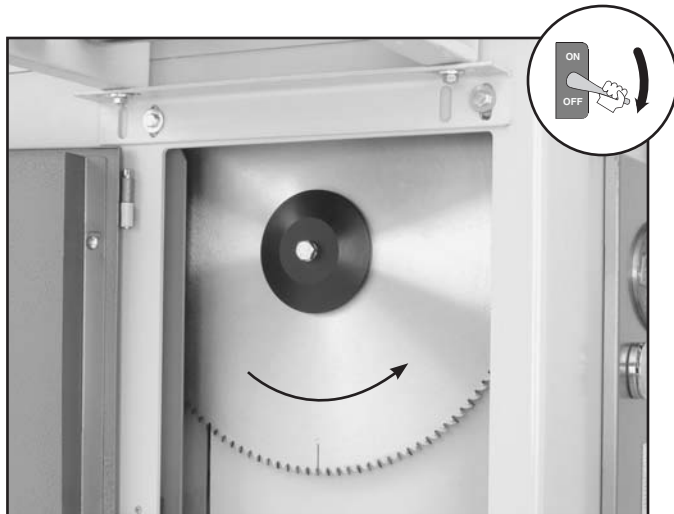

Figure 32. Cut-off saw blade.
2. Open the left side cabinet door to expose the blade, as shown in **Figure 32**.